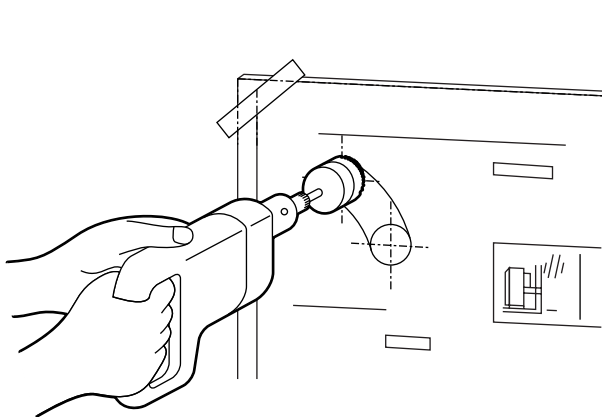

Fig. 5
4. Install the Balanced Flue Pipe with a slight downward slope to outside, (2 degrees ... See Fig. 6), to ensure that combustion condensate drains to outside, and also to prevent rain, watering systems or snow water entering from outside after installation. Before drilling the final size hole for the Balanced Flue Pipe, first, pierce the wall with a small "pilot hole", right through the wall (say 5mm diameter) from inside to outside. This method enables the angle of the final hole to be better controlled. Then enlarge the hole (to between 70mm and 80mm), starting from outside and maintaining the downward slope of approx. 2degrees. (See Fig. 5). (Warning: if the pilot hole is to big, it may make the final hole drilling difficult).